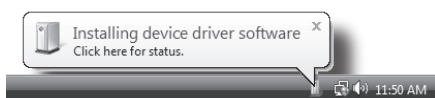

Figure 4
1. The first time you plug the StudioDock into a USB port, Windows Vista will install the universal drivers for that port. A balloon tip will pop up, telling you it has found the USB Audio codec (figure 4).